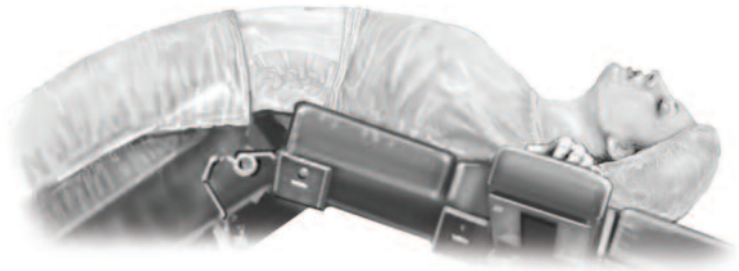

Fig. 1a
**NOTE:** At times you may want to break the table in order to gain better access to the level, particularly in treating L5/S1 (Fig. 1a).